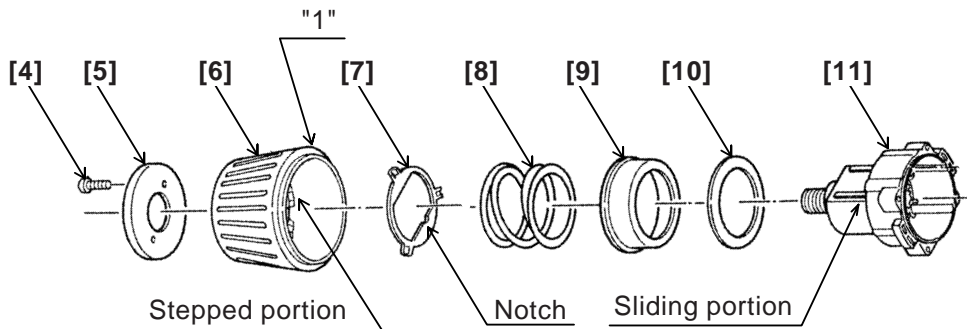
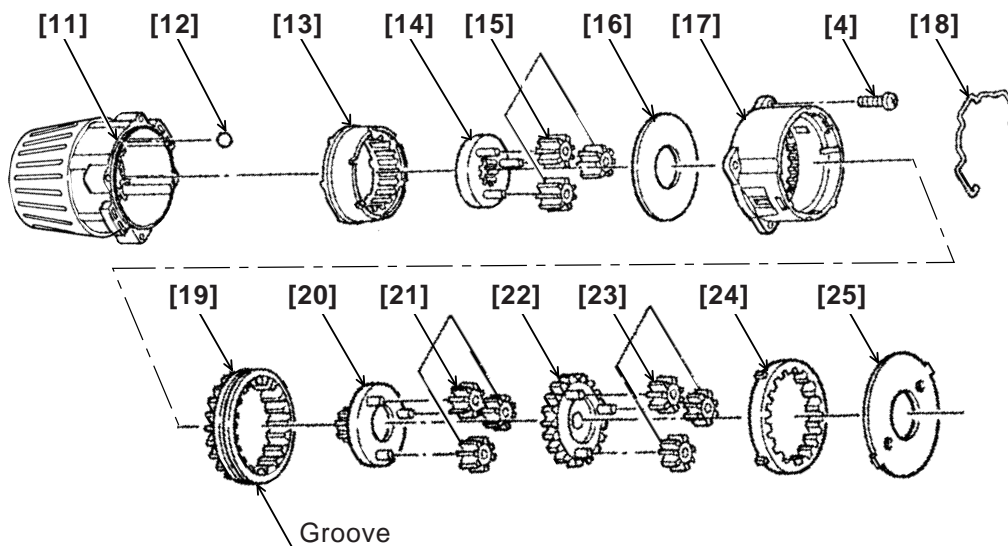

Fig. 4
Fig. 6
(2) Reassembly of the clutch unit (See Fig. 4.)
- (ii) When installing the Cap [6] to the assembly reassembled in step (i), be careful of the position of the numbers on the Cap [6] and the notch of the Clutch Plate [7]. The indication "1" of the Cap [6] must be on the opposite side of the notch of the Clutch Plate [7]. (See Fig. 4.)
(3) Reassembly of the gear unit
- (b) Install the parts series from the Steel Ball [12] to Washer (B) [25] into the assembly reassembled in step (2). (See Fig. 6.)